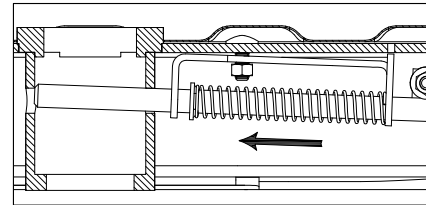
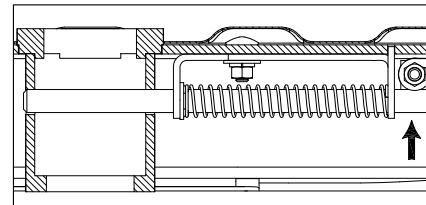

FIGURE E5: Cut-away of center section
FIGURE E6: Cut-away of center section
3. **Attach the latch to the center.** Compress the spring slightly by pushing the frame of the latch toward the socket and insert the tabs of the latch into the slots of the center section as shown in figure E5. Remove the $\frac{3}{8}$ " finish nut. Install a $\frac{3}{8}$ " flat washer, lock washer and finish nut. Tighten the hardware, securing the latch to the center section as shown in figure E6.